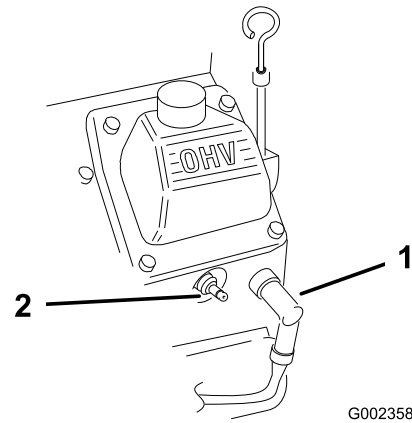

Figure 20
2. Disconnect the wires from the spark plugs (Figure 20).